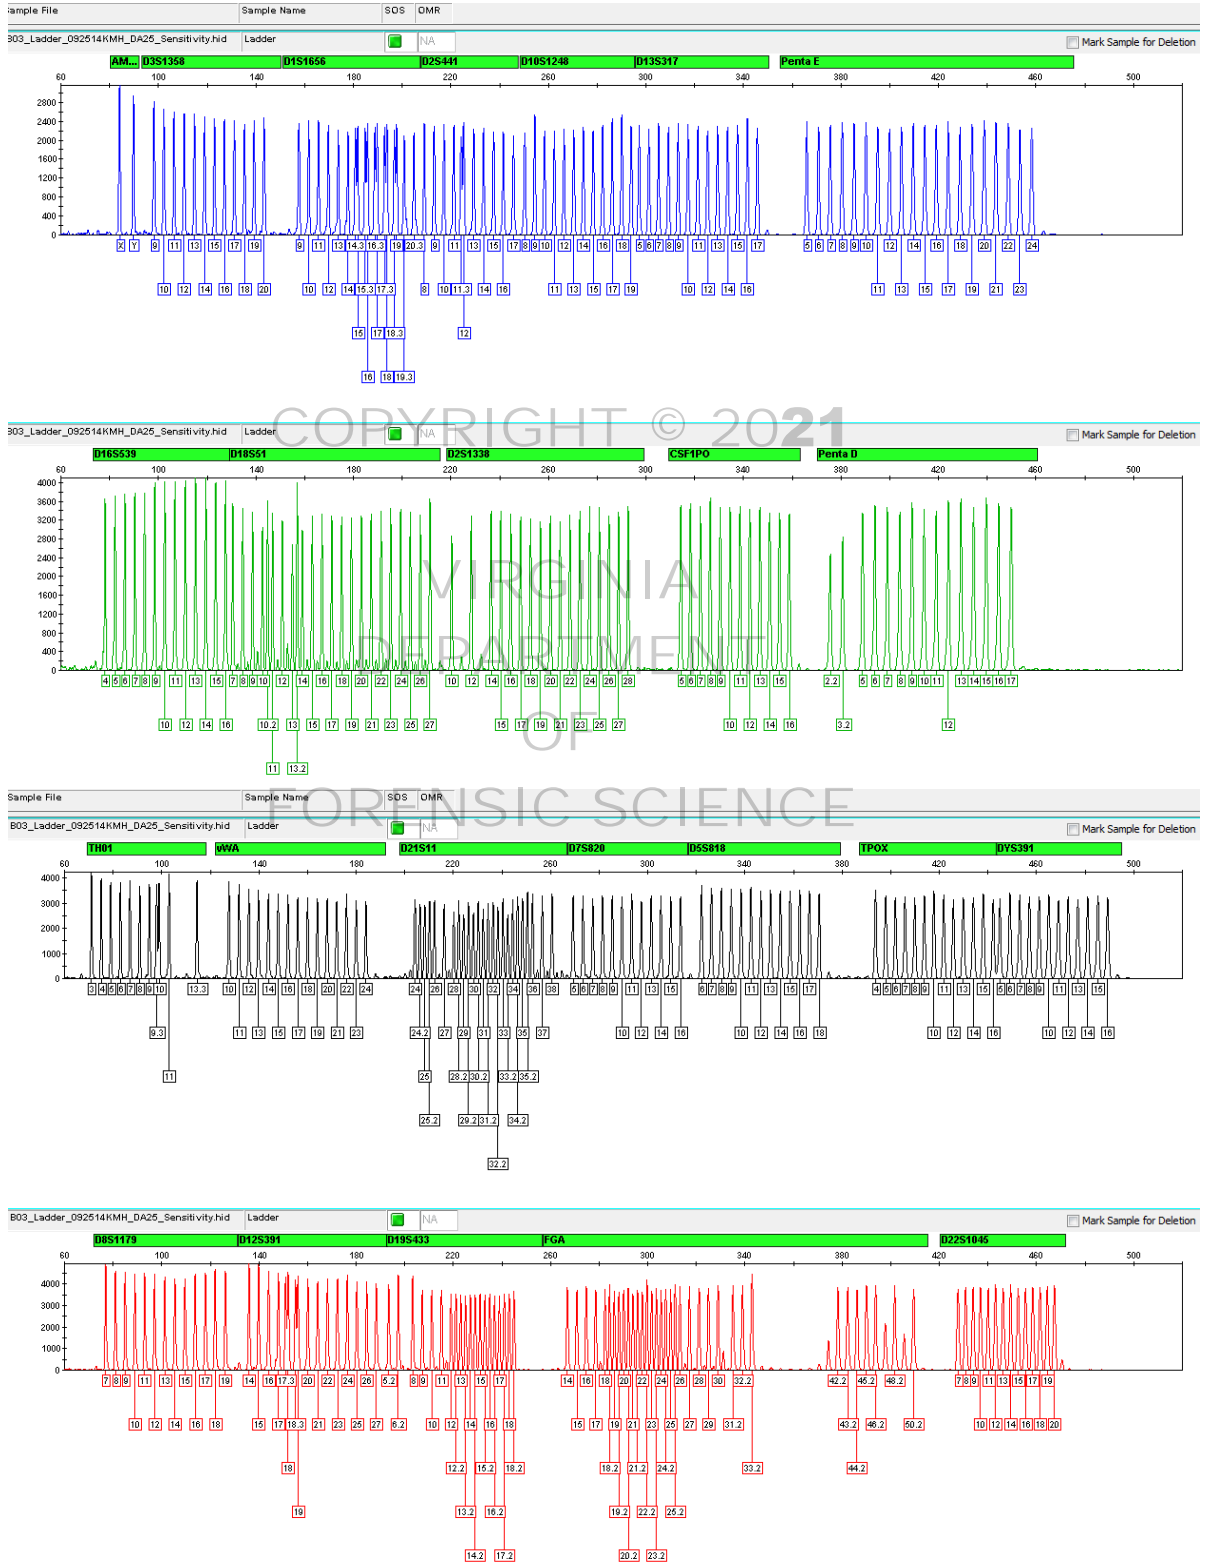

Figure 3. PowerPlex® Fusion Allelic Ladder
4.5.2 Verify that the allelic ladder is called correctly for each locus. Figure 3 represents an example of a PowerPlex® Fusion allelic ladder.